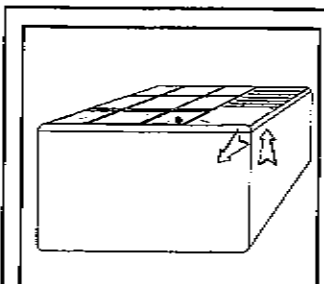

Fig. 2
- Provide sufficient clearance around the cabinet to allow for ample air circulation through the unit. See Fig. 2. The rear of the unit should be outdoors and not in a garage nor inside a building. Keep unit as far away as possible from obstacles/obstructions and at least 30" above the floor or ground. Curtains and other objects within a room should be prevented from blocking the air flow.
- To remove the front grill, grasp the lower front corner (edge) of the grill, pulling (gently) outward and upward. (Fig.2)